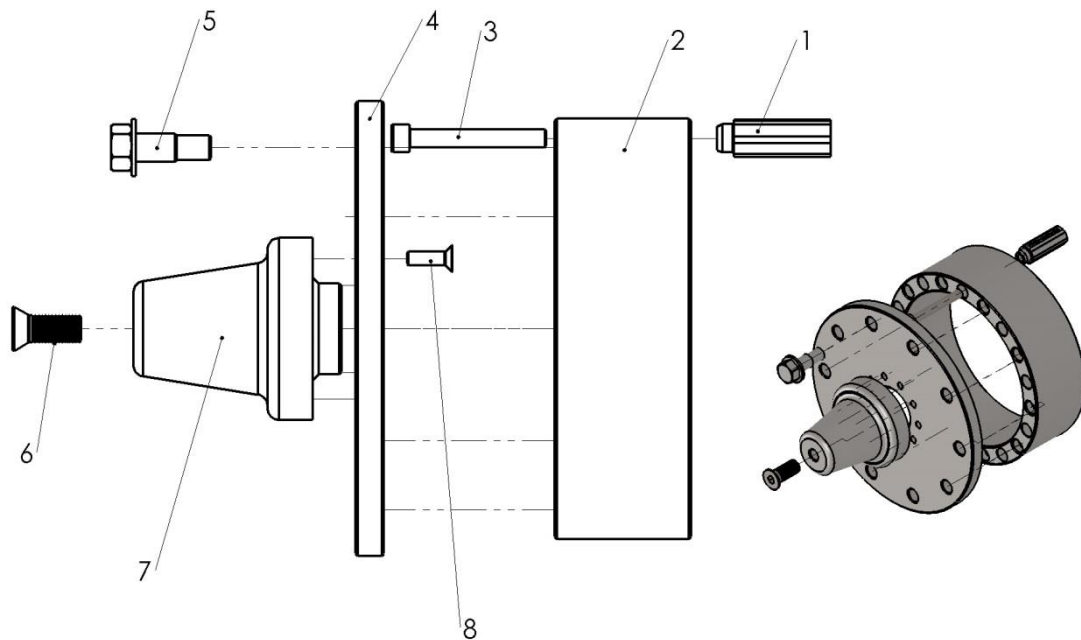

Figure 13: Rim adapter unit
4. Insert the connecting screws [3] with washers [2] through the wheel rim adapter into the thread adapters [1], (see Figure 13) and tighten with 250Nm.
To change the rim adapter unit for a rim adapter unit with a different bolt circle, the following steps are necessary (cf. Figure 13)